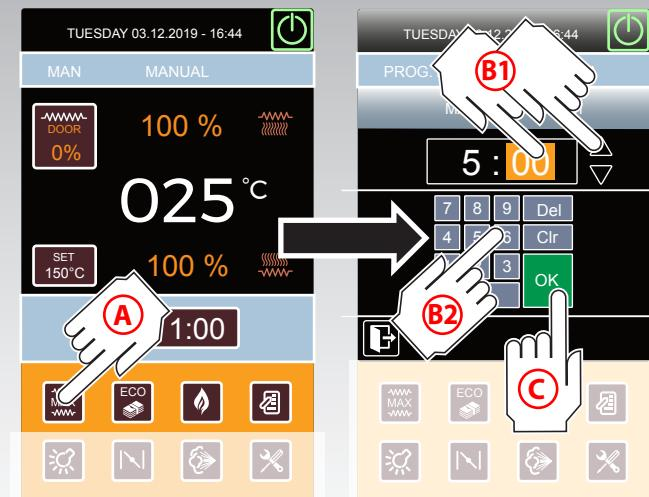

Fig.8.
- has a **duration** which can be set using the keypad ▶ Fig.8.
These last two parameters are customizable by accessing the **SERVICE menu** ▶ Fig.8.